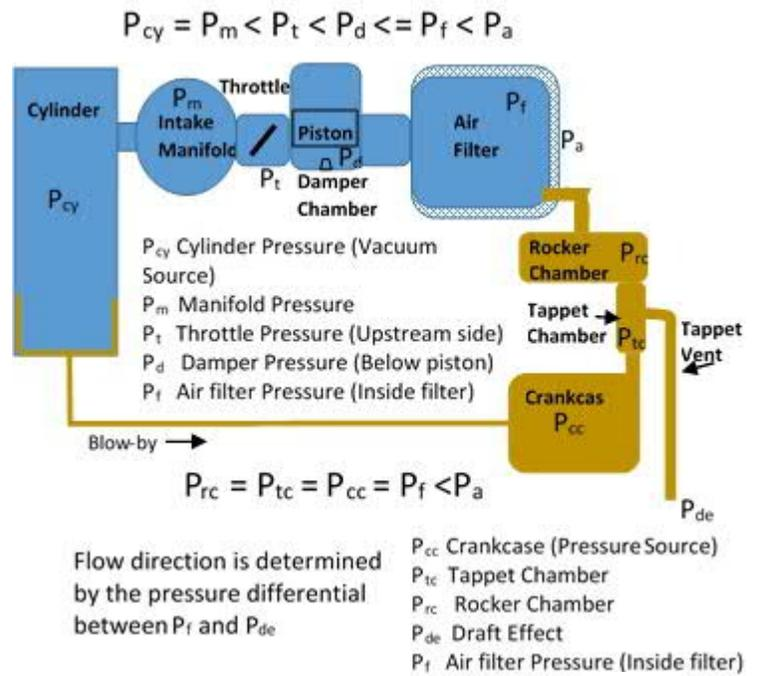

Figure 1
Like the MG T series, the MGA system (figure 1) has two vents, one from the rocker cover (RC vent) into the front air filter but the tappet cover vent (TC vent) was intentionally, reduced in diameter by ½ , moved forward behind the crossmember and shortened to mid oil pan, 3" above the airstream under the vehicle. This is where the confusion starts. The TC vent tube resembles the draft tube that was on earlier engines so those familiar with draft tubes, assumed this was also a draft tube providing vacuum. Connecting the rocker cover to the air filter must be to draw filtered air through the crankcase to keep it clean from contaminants. The description spreads and repeated over time until it is the accepted theory, without any real examination of the system.
- The intake system contains a throttle blade, a damping piston and air filter and all restrict airflow. Each restrictor creates a pressure loss. When the throttle is closed, the engine is still trying to pull a large amount air so the manifold, will have a large vacuum. The other side of the throttle blade, will still have a vacuum but not as strong. The same goes for all the restrictions up the line to atmosphere. When the throttle is open, the manifold vacuum will become less because it has less resistance to atmosphere but everything upstream of the throttle blade will have more vacuum and higher flow. (Figure 1) The air filter will be the closest to atmosphere but always lower than atmosphere or air would not flow through the filter. Where the vent is placed within the intake system makes a big difference. Later systems use high manifold vacuum and a vacuum control valve.